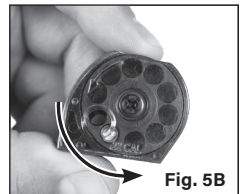

Fig. 5B
4. Rotate the cylinder counter-clockwise to the next open spot (Fig 5B).